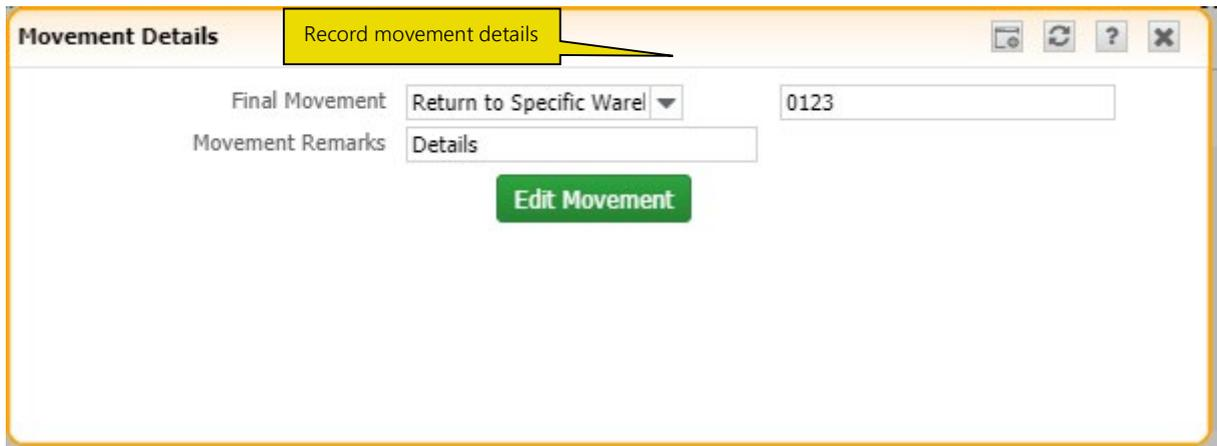

Figure 2.11: Recording movement details for part
1. Click the **Movement Details** link in the **Part Disposition** tile of the **Shop Quick Actions Hub** page. The **Movement Details** pop-up appears. See *Figure 2.11*.